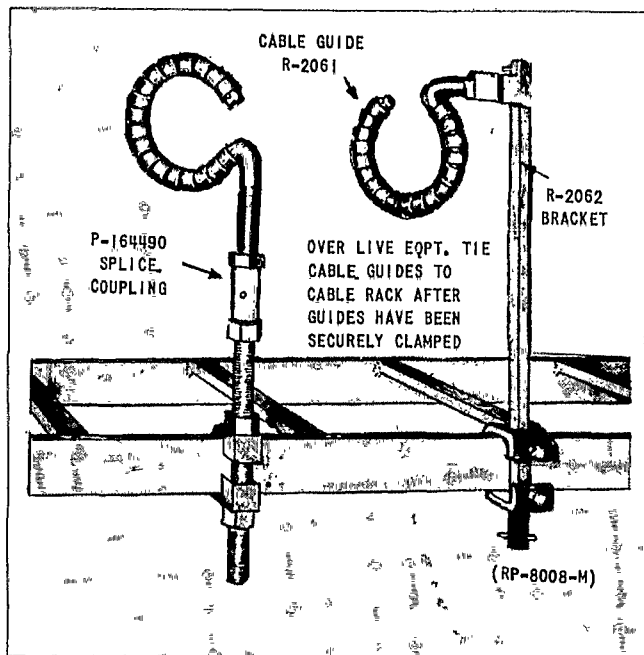

FIG. 9 METHOD OF MOUNTING CABLE GUIDES, R-2061 (PAR. 10.052)
10.052 When running in power wire, the use of R-2061 cable guides, and R-2062 brackets, shown in Figure 9 will facilitate the pulling operation. Place